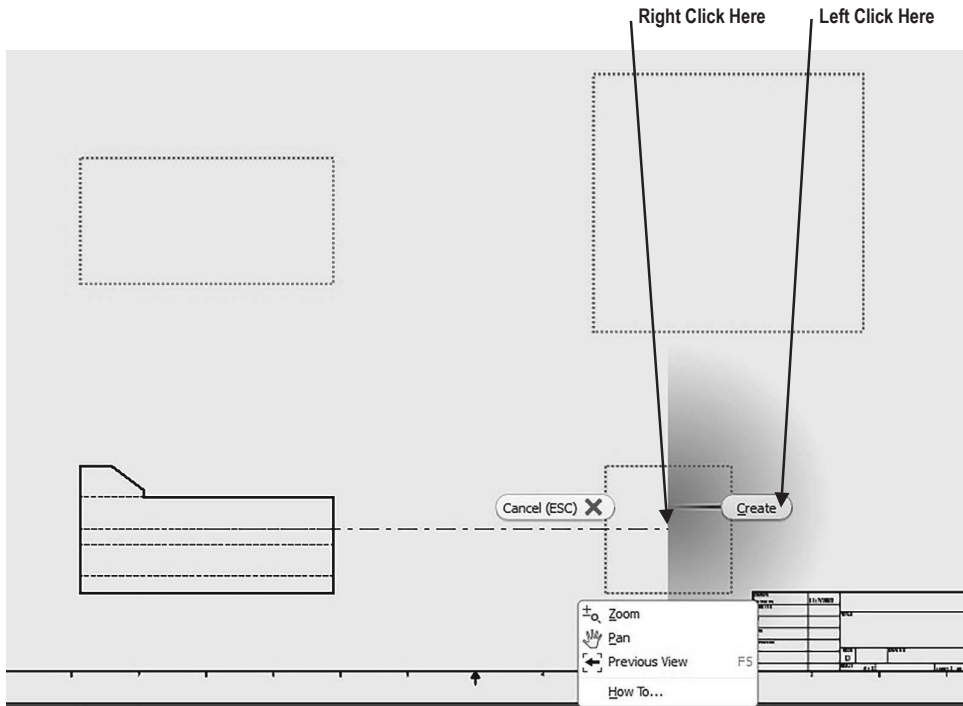

Figure 22
27. Right click on the side view. A pop-up menu will appear. Left click on **Create** as shown in Figure 22.